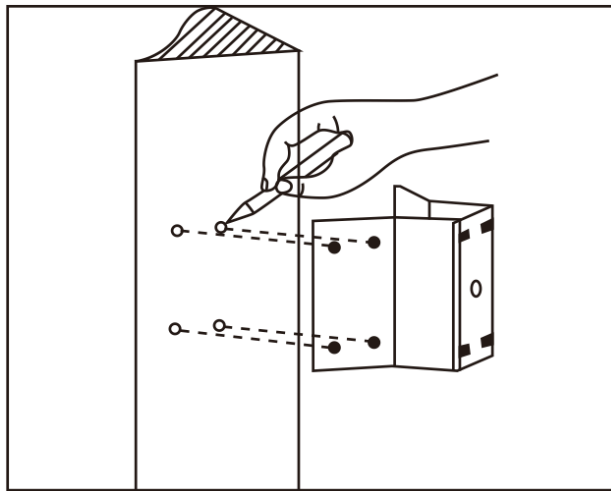

Fig 2.5
a. As shown in fig 2.5, with the installation holes in the corner mounted attachment as pattern, draw punched locations on the wall with an angle of 90° and punch to install expansion bolt.